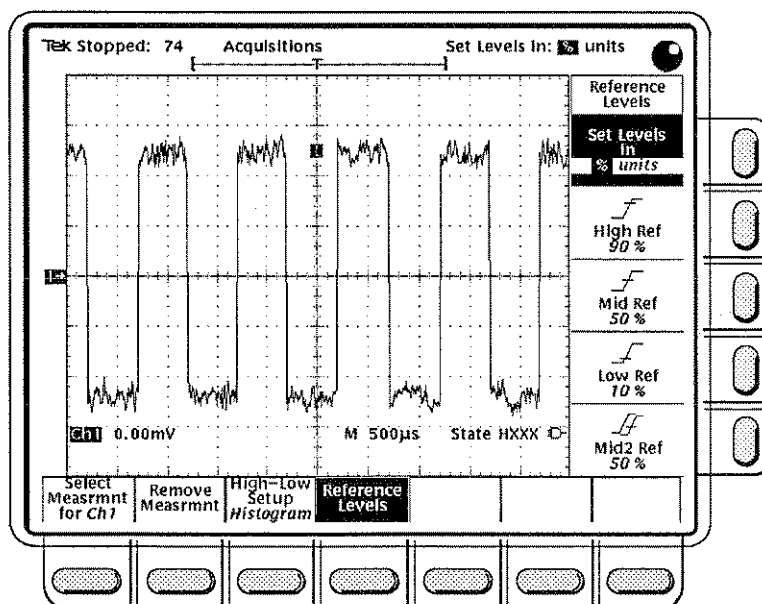

Figure 3-34: Measure Menu – Reference Levels
- Step 1:** Press the **MEASURE** button to bring up the Measure menu (Figure 3-34).